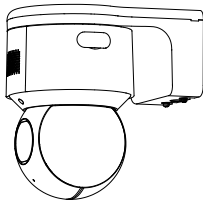

Figure 2-17 Complete the memory card installation
5. Align the camera with the installation plate, and rotate the camera clockwise to fix it, as shown in Figure 2-17.